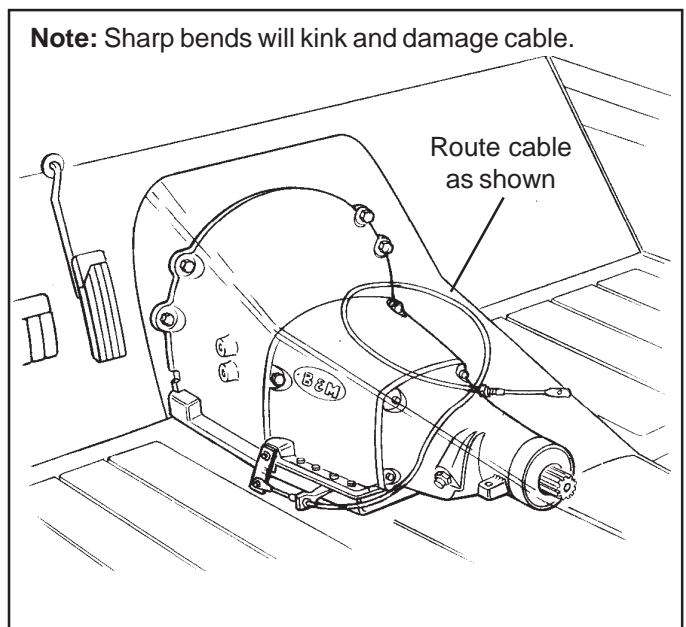

Figure 4
STEP 2. Disconnect the stock shifter cable then remove the cable bracket and the selector lever from the transmission (**See Figure 4**). Remove the shifter mechanism. Remove the shifter cable from the vehicle.
STEP 8. Route the shifter cable as shown in **Figure 4**. Avoid sharp bends that will kink and damage the cable.
STEP 11. Remove the two rubber boots, one large nut, and a large lockwasher from the threaded end of the shifter cable. Route the shifter cable according to **Figure 4**. Avoid sharp bends and route the cable away from hot engine exhaust parts. Use cable clamps or tie wraps to secure the cable housing to the chassis to avoid contact with exhaust system or moving driveline parts. Slide the end of the cable into the cable bracket, install the lockwasher and the large nut over the end of the cable. Position the cable so the threaded portion of the cable housing is centered in the cable bracket. Tighten both large nuts to hold the cable in this position. Install the two rubber boots onto the end of the cable.